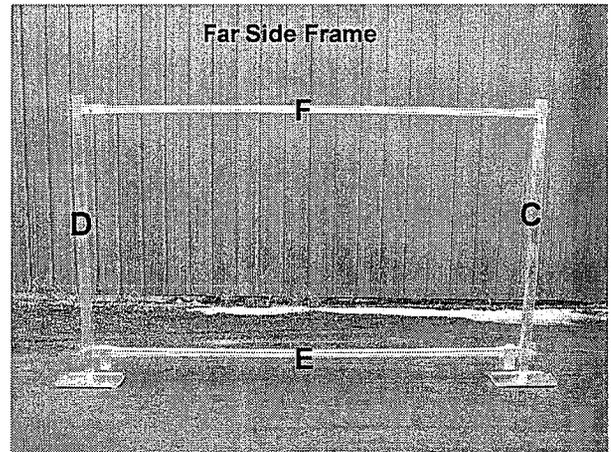

FIG. 11
2. Connect the corner posts **C** & **D** using one side frame tube **E** and one top far side tube **F** as shown in FIG. 11.